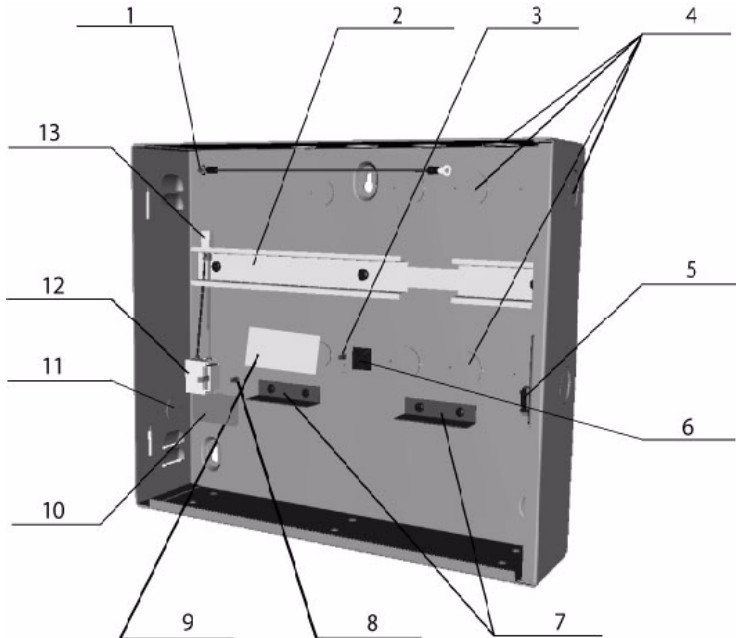

Figure 1.1: Components of the Housing
1. Mount the AMC on the rail on the right (item **2** – Fig. 1.1) and left aside the power supply.
2. If rechargeable batteries are used, put them on the bottom of the housing and secure them using clip **7** (Fig. 1.1).
3. Connect the grounding cable **A4** at the grounding point **3** (Fig. 1.1).
The components described below refer to Figure 1.1:
1. Connect the grounding cable to the housing at position 8 in figure 1.1.
Before switching to battery operation disconnect the AC Power Cable (Fig. 1.1 – item 13) from the power supply.